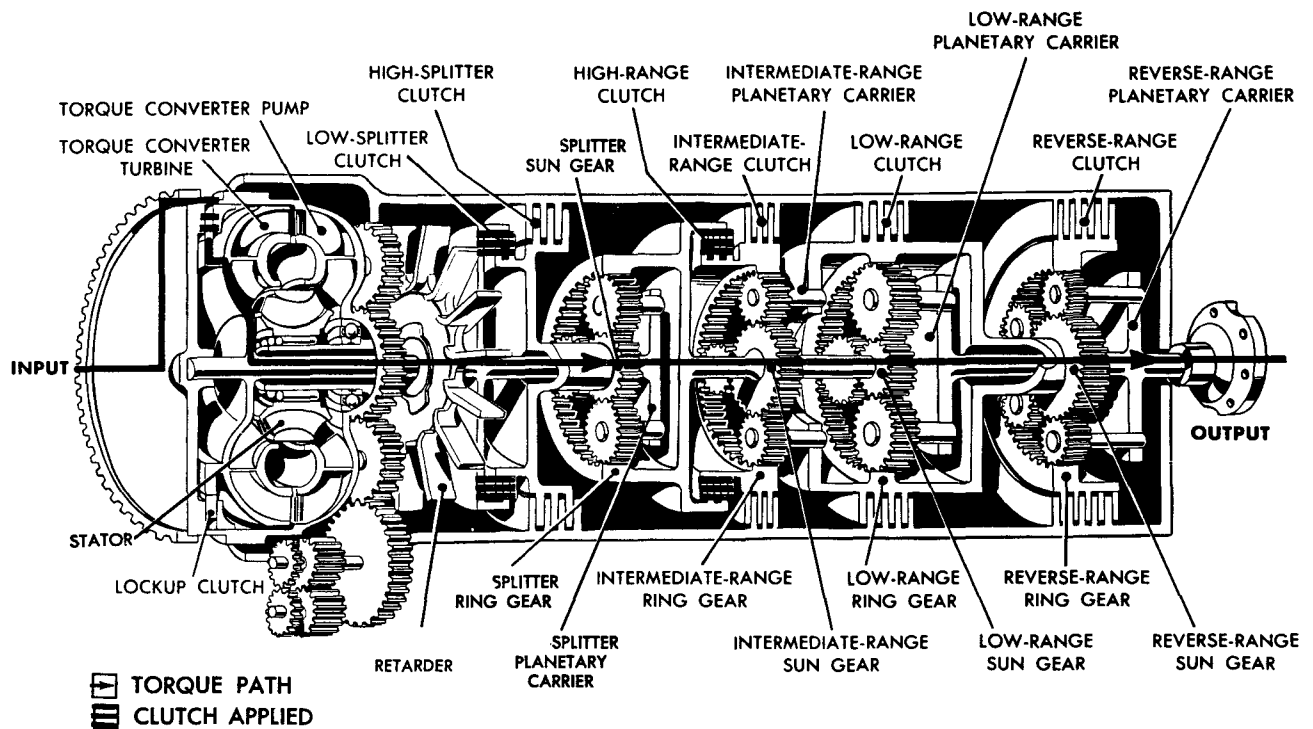

Fig. 2-8. Third gear (5640, 5840), fifth gear (5660, 5860), low splitter, high range, lockup—torque path
**g. Third Gear (5640, 5840); Fifth Gear (5660, 5860)—Torque Path (fig. 2-8)**
(1) The manual selector valve is in third-gear (3) position on 5640 and 5840 transmissions. It is in fifth-gear (5) position on 5660 and 5860 transmissions. The torque from the engine passes through the applied lockup clutch, to the low-splitter clutch and to the splitter planetary carrier. The low-splitter clutch is applied. Refer to b(2), above, for explanation of delivery of power to the low- and intermediate-range sun gears.
(2) In addition to the low-splitter clutch, the high-range clutch is applied. This causes the intermediate-range ring gear to rotate at the same